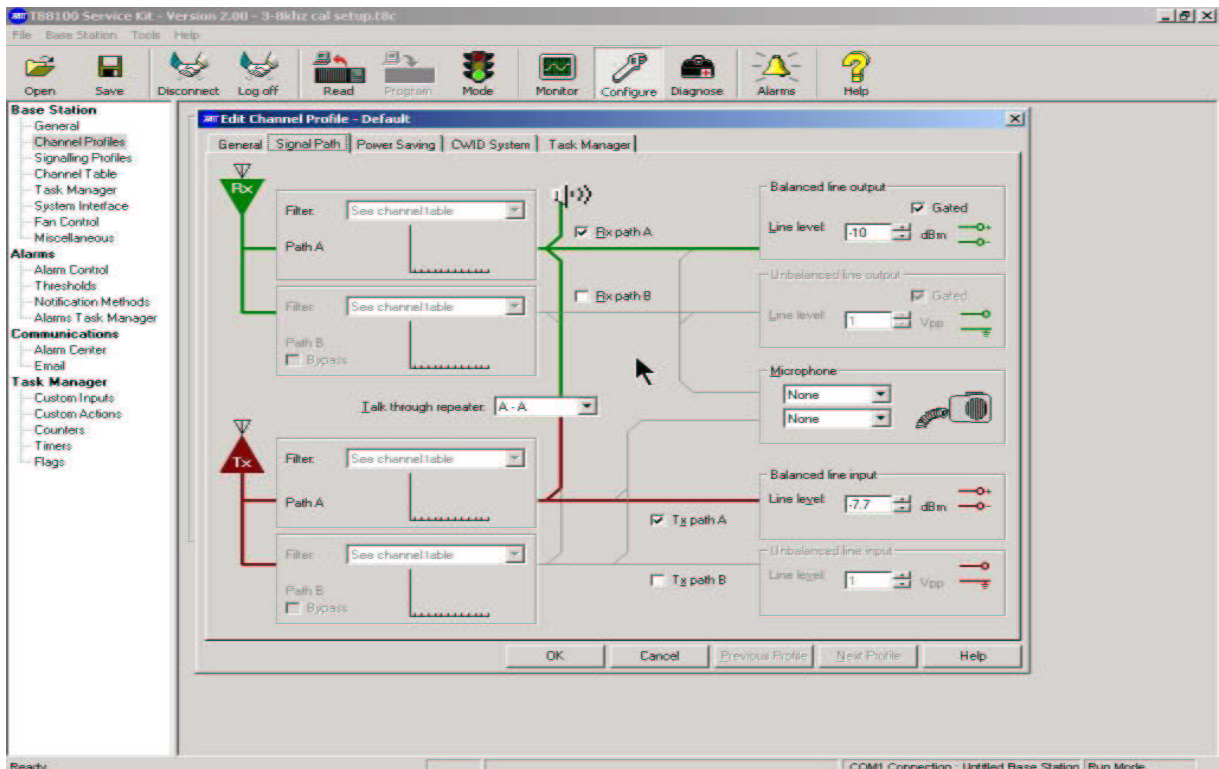

Fig. 2 - Configure/Channel Profiles/Signal Path page
**Configure/Channel Profiles/Signal Path** (Fig. 2).